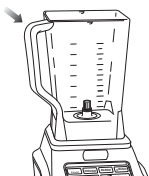

Fig. 3b
5 The pitcher can be placed on the motor base two ways; the handle can be on the front right corner or the front left corner. (Fig. 3a, Fig. 3b)
- 5 The bowl can be placed on the motor base two ways; the handle can be on the front right corner or the front left corner. (Fig. 3a, Fig. 3b)